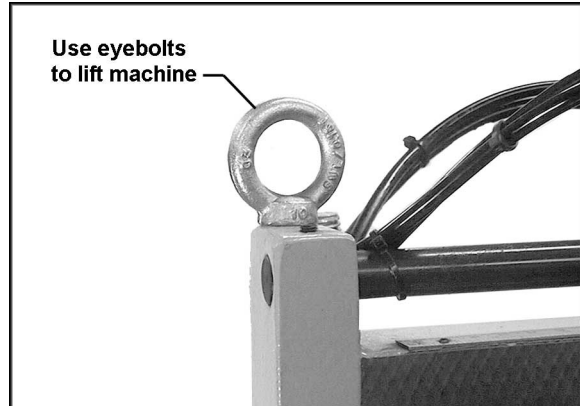

Figure 2
2. Place lifting straps through the two eyebolts at the top of the machine (Figure 2). Using a forklift or hoist, lift the machine off the pallet and into its desired location. The Dovetailer should be located in a dry area with sufficient lighting. Leave plenty of space around the machine for operations and routine maintenance work.